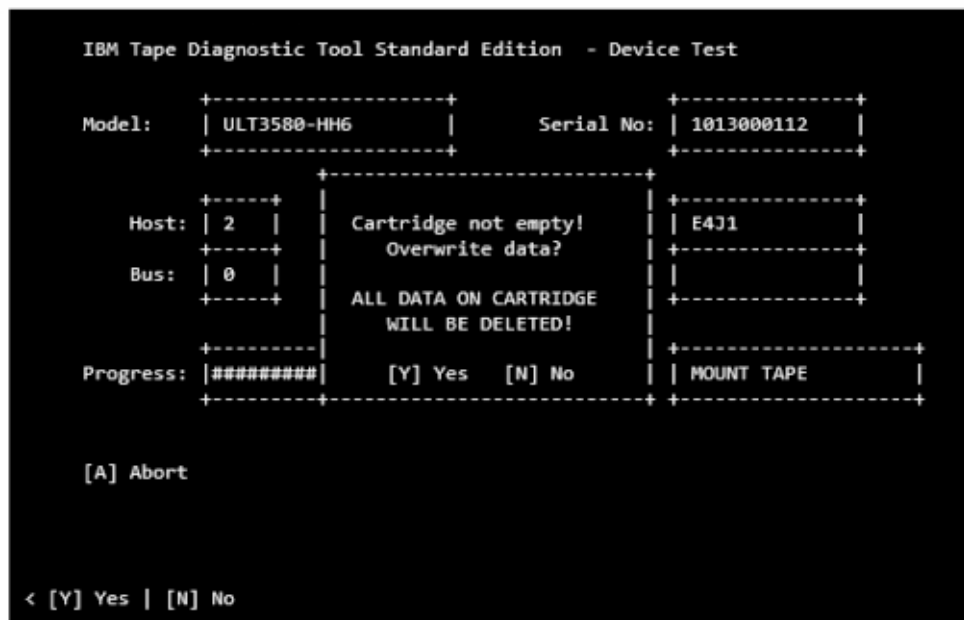

Figure 21. Data Delete question
**Note:** If ITDT-SE detects data on the cartridge, the Device Test screen displays a message (as shown in Figure 21 on page 94).